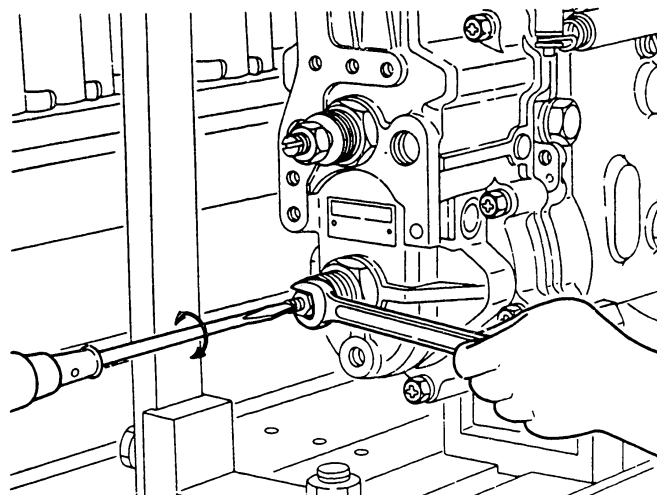

Fig. 142 Adjustment of the inner spring
- 2) Adjust the screw (133/2) after increasing the pump speed to  $N_b$  rpm so that the control rack will be at  $R_c$  mm, and then lock the locking nut (133/5). (Fig. 142)